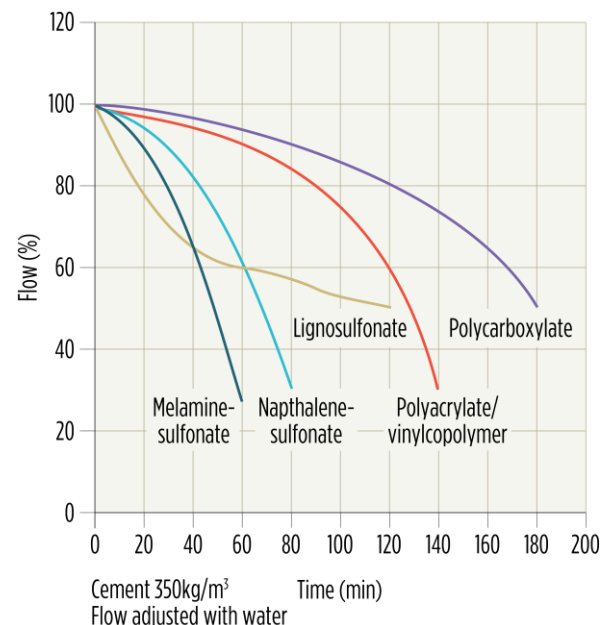

Figure 5.10 – Comparative Effectiveness of HWR Types
- Type and dose rate of super-plasticiser (**Figure 5.10**);